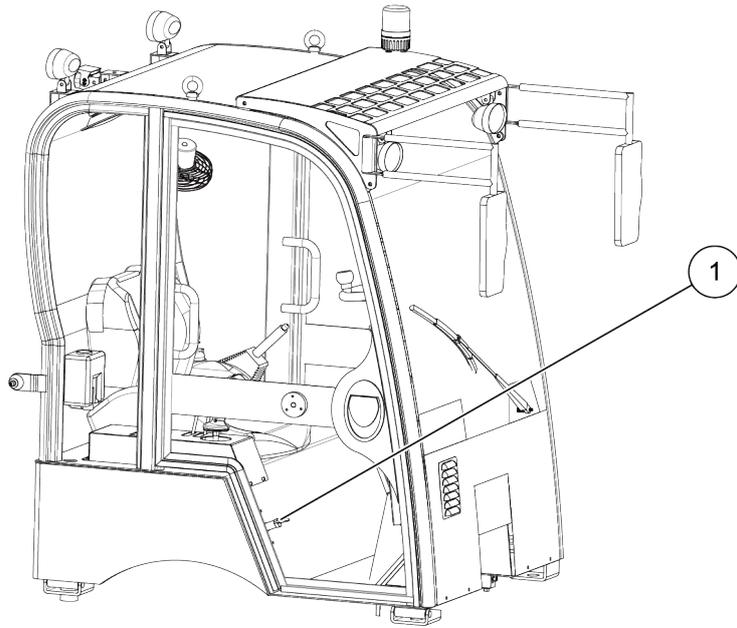

Figure 5-28 Cab
(1) Engine preheater
Step 2: Turn on the power switch (2) in the cab, as shown in Figure 5-28;